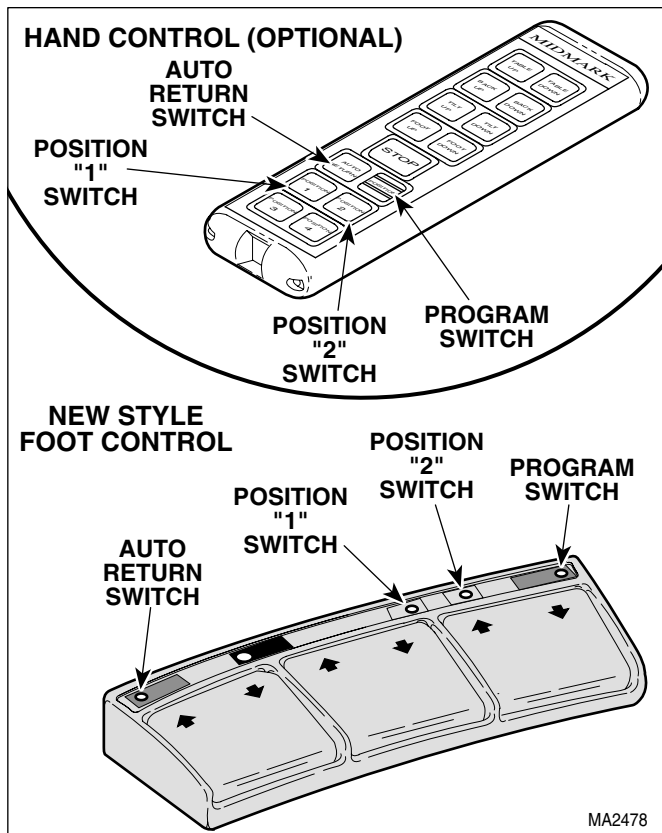

Figure 4-2. Reinitialization Procedure #2
- (1) Simultaneously depress and hold the PROGRAM, POSITION "1", and POSITION "2" switches for at least two seconds; then release switches. See Figure 4-2.